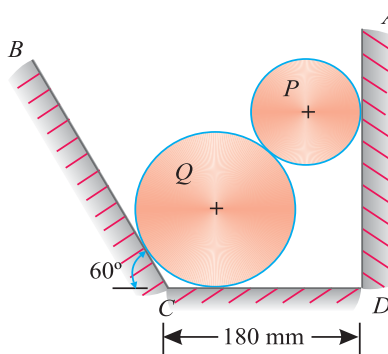

Fig. 5.13.
**Example 5.6.** Two cylinders P and Q rest in a channel as shown in Fig. 5.13.